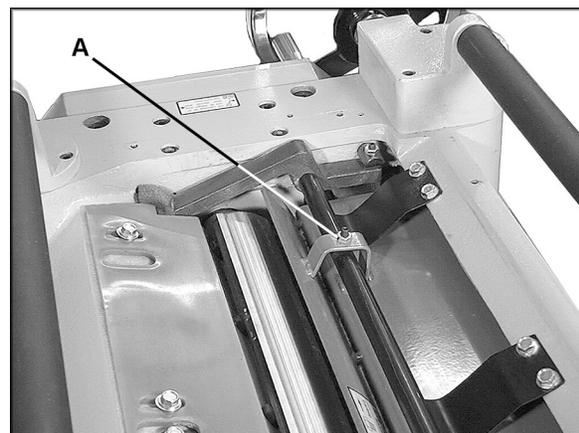

Figure 28
2. Loosen the lock nuts (A, Figure 28) at both ends of the chipbreaker, and turn the set screws to raise or lower the chipbreaker as needed. The set screws should be turned the same amount.
3. When the chipbreaker contacts the gauge block, tighten both lock nuts (A, Figure 28).